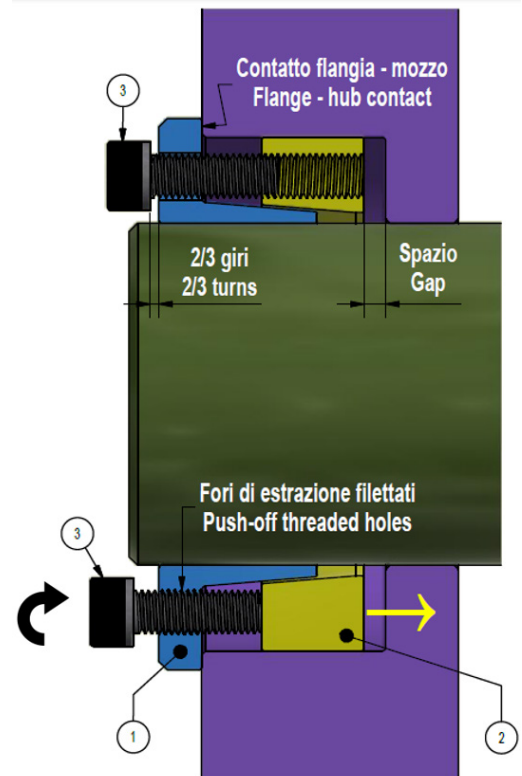

Fig. 2
2. For ease of installation, locking rings shall be disengaged (fig. 2). Loosen all screws by two/three turns; then transfer and hand-tighten at least two screws into the push-off threaded holes in the inner ring.
3. Insert Locking Assembly into the hub bore and make it slide onto the shaft, making sure that connected components are positioned as required. **Inner and outer rings shall be completely supported by shaft respectively hub bore (fig. 2). The flange of inner ring shall be in full contact with the face of the hub (fig. 2).** At this point, relocate the screws used to disengage the locking rings. Installation into hubs with shoulder requires a few mm's gap between outer ring and shoulder (fig. 2).